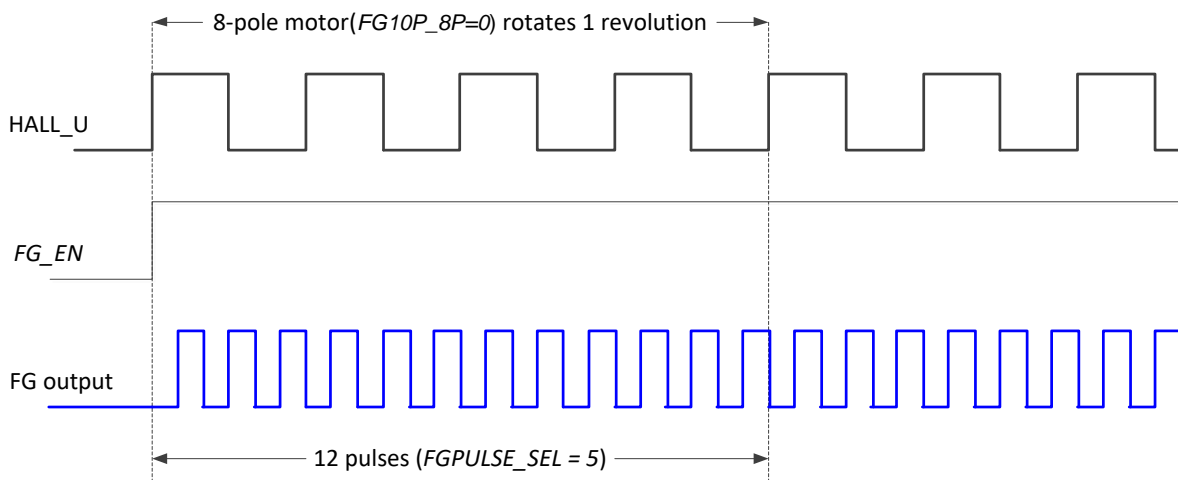

Figure 19.2.3 FG output when FG\_EN=1, FG10P\_8P=0, and FGPULSE\_SEL=5
In addition to providing motor electrical cycle (motor speed) information, Motor Speed Observer can also output a fixed pulse number in a hall cycle according to the setting of FG\_CTRL SFR (see Table 19.2.3), that is, it can be used as a frequency generator (FG). Figure 19.2.3 shows an FG output waveform when the control bits in the FG\_CTRL SFR are FG\_EN=1, FG10P\_8P=0, and FGPULSE\_SEL=5.